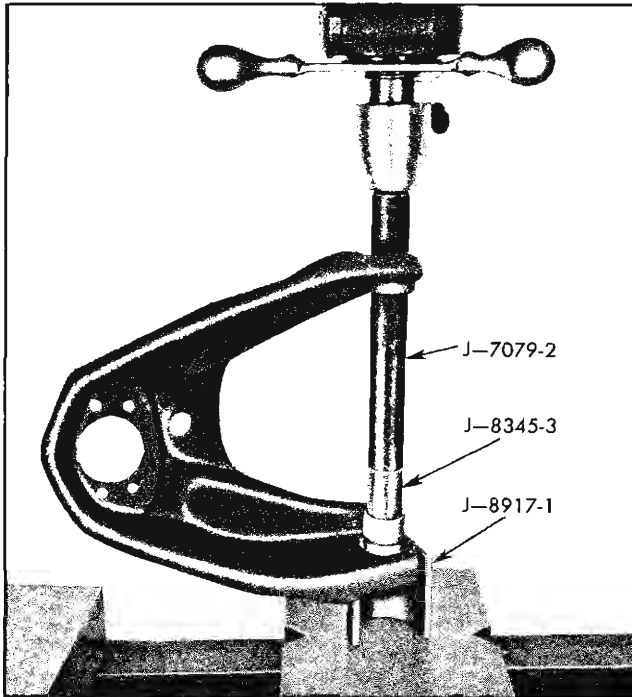

Fig. 3-25 Removing Control Arm Bushing
4. Remove cross shaft, support control arm, and press out remaining bushing (Fig. 3-25).